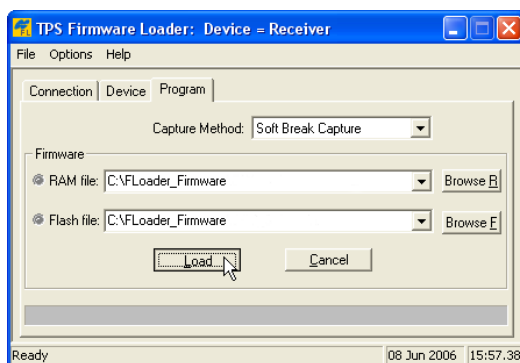

Figure 5-20. Program Tab Settings
2. Click the **Program** tab, and set the *Capture Method* to “Soft Break Capture” (recommended) (Figure 5-20 on page 5-19).
3. Browse for and select the receiver board’s RAM file and Flash file (Figure 5-20).